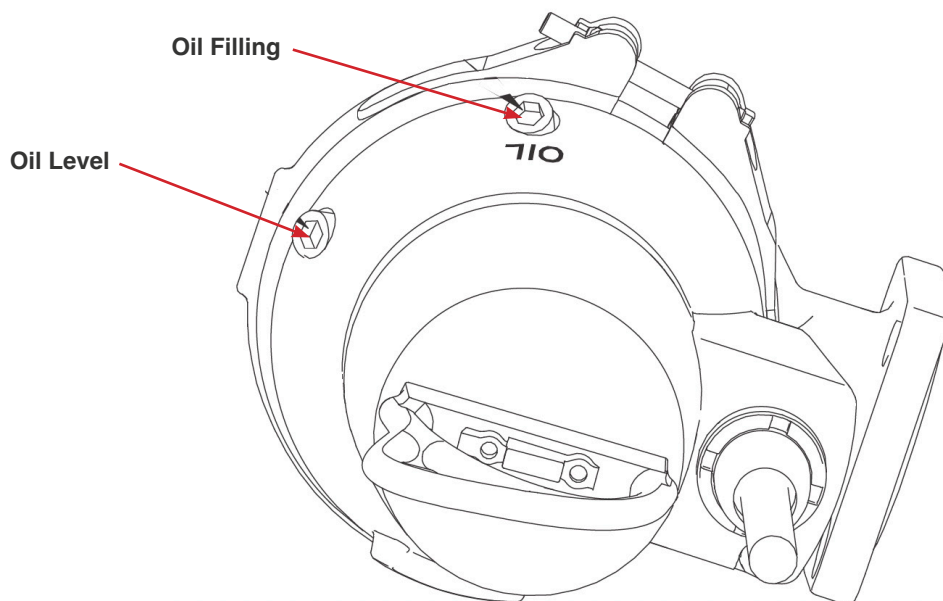

Fig. 5.1.1 - 1 - Changing SEG Pump oil
3. Place the pump in such a position that it is lying on the stator housing and the discharge flange and that the oil screws are pointing upwards and the Oil Filling screw is in the 12 o'clock position. (Fig. 5.1.1 - 1).